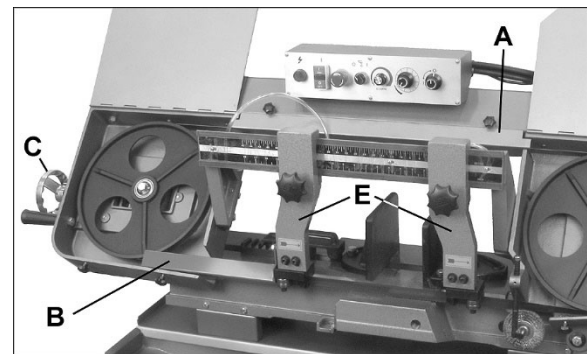

Figure 7-1: installing blade
4. Remove upper gap cover (A, Figure 7-1, two knobs) and lower blade guard (B, one screw).
5. Release blade tension by turning blade tension handle (C) counterclockwise until blade is free.
Blade tension has been preset by the manufacturer; if further adjustment is required, or after installing a new blade, turn handwheel (C, Figure 7-1) clockwise to approximately 25,000 pounds, as indicated on adjacent tension scale.
3. Loosen four knobs and open wheel covers. Remove upper gap cover (A, Figure 7-1) and lower blade guard (B).
12. Install upper gap cover (A, Figure 7-1) and lower blade guard (B). Close blade wheel covers and secure with knobs.
The bracket(s) (E, Figure 7-1) should be set as close to workpiece as possible without causing obstruction. Loosen front knobs (HBS-1018) or rear handle (HBS-916) and slide the bracket, then tighten in position.